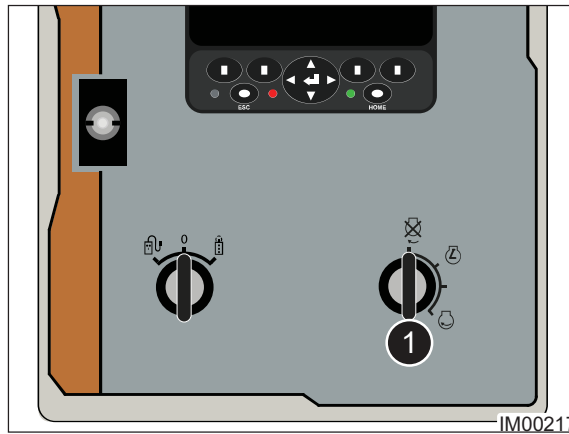

Fig: 9.3 - Ignition Key
5. Rotate the ignition key (Item 1, Fig: 9.3) Counter-Clockwise to switch off the engine. Remove the key from the ignition and store in a safe location.